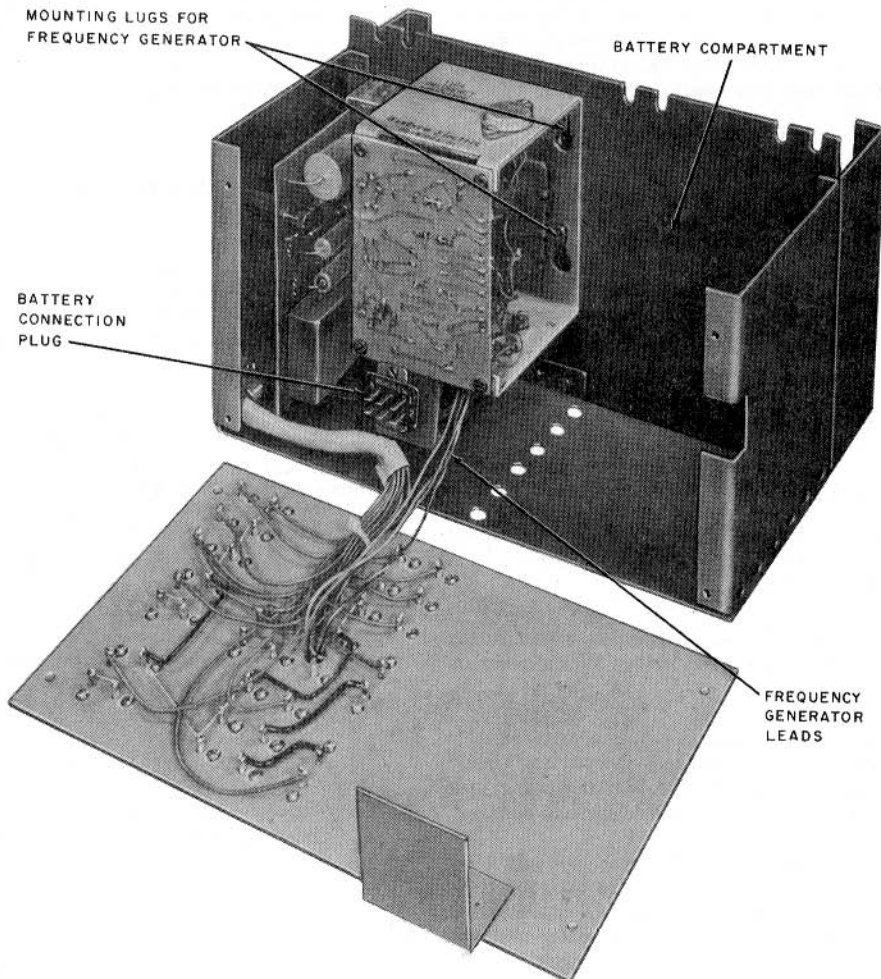
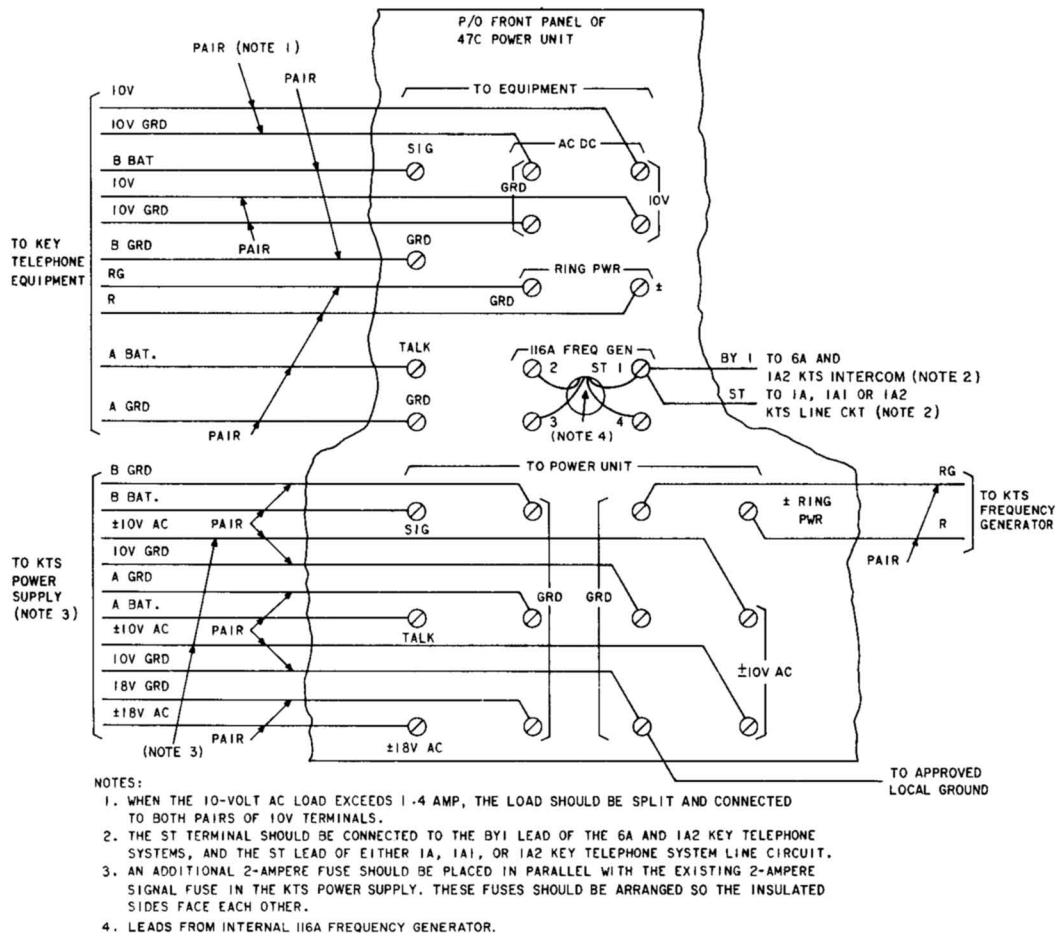

Fig. 2—47C Power Unit (Front Cover Removed)
Fig. 3—Connections for 47C Power Unit
2.04 The front panel (Fig. 2) of the power unit, mounting the input and output screw terminals and fuses, is removable.
2.07 Battery (KS-20390, List 1): Consists of a 24-volt (dc reserve) and a 10-volt dc (lamp reserve) battery in a single case. The battery is mounted in the battery compartment and connected to the power unit with a connector ended cable (Fig. 2). The battery will provide approximately three years of service at ambient temperatures ranging from 32° to 140°F. A label is provided on the battery for recording the installation date.
- (1) Remove front cover from 47C power unit (Fig. 2).
- (2) Place battery in power unit battery compartment and connect battery connector to mating battery connection plug.
- (3) Replace front cover.
- (4) Connect a 19- or 20-type power unit to the power unit as shown in Fig. 3 for a minimum of 16 hours.
- (1) Remove front cover from power unit (Fig. 2).
- (2) Record installation date on label provided on battery.
- (3) Place **fully charged** battery (see 3.03) in battery compartment and connect battery connector to mating battery connection plug.
- (4) Slide frequency generator (if used) in place on mounting lugs.
- (5) Insert frequency generator leads through hole in front panel.
- (6) Replace front cover on power unit
- (7) Connect frequency generator leads to terminals (Fig. 3) on front panel as follows:
- 4.01** Connect power unit as shown in Fig. 3.